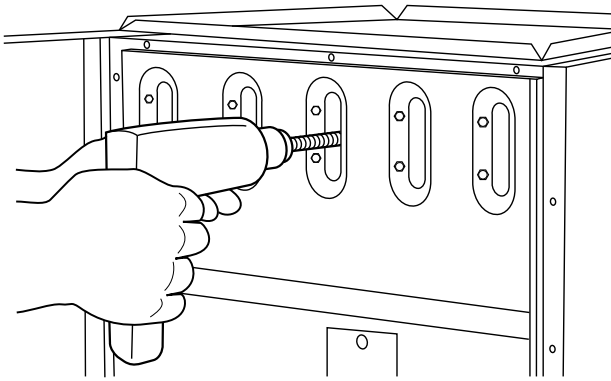

Fig. 51 – Cleaning Heat Exchanger Cell
- (2.) Insert brush end of cable into the outlet opening of cell and slowly rotate with drill. **DO NOT** force cable. Gradually insert cable into upper pass of cell. (See Fig. 51).